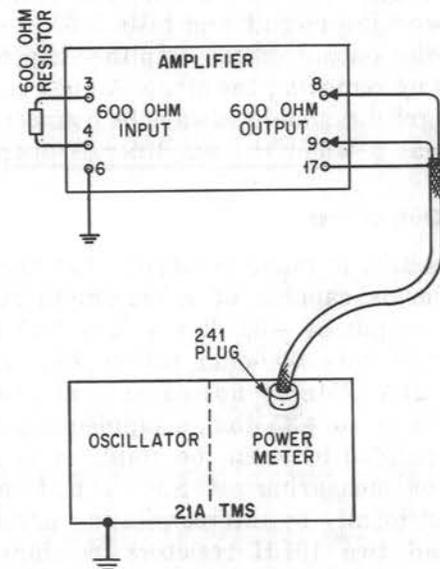

Fig. 2 - Noise Test Arrangement
- (1) Terminate the 600-ohm input of the amplifier (terminals 3 and 4) under test with the 600-ohm resistor as indicated in Fig. 2.
- (2) Connect the 600-ohm output circuit (terminals 8 and 9) to the measuring set input.
- (3) Adjust amplifier controls for maximum gain.
- (4) Adjust the "hum balance" potentiometer for minimum reading on the transmission measuring set.
- (5) Read the noise power indicated on the TMS.